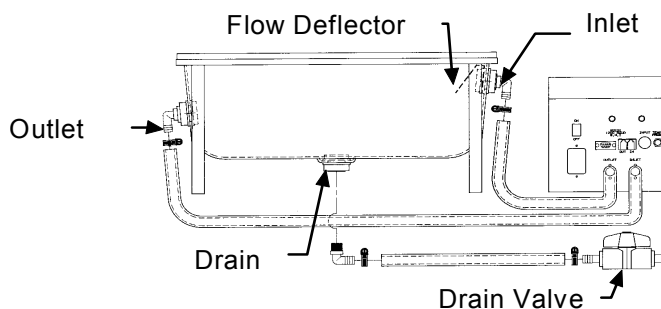

Figure 3 Single Water Bath Connections
- 2 Slip one end of each piece of tubing over the barbed 90-degree angle adapters in the inlet and outlet bulkhead fittings of the water bath. The inlet fitting is the higher of the two fittings. It has a perforated deflector screen attached on the inside of the water bath (see Figure 3, “Single Water Bath Connections,” above). Slide the tubing as far up on the adapter as possible.